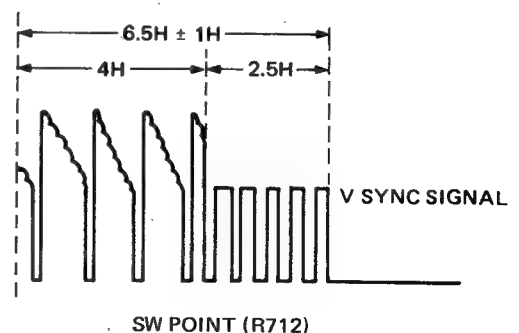

Figure 8-17.
5. Selecting (-) sync slope with the oscilloscope, adjust R712 to meet the requirements given in Figure 8-17.